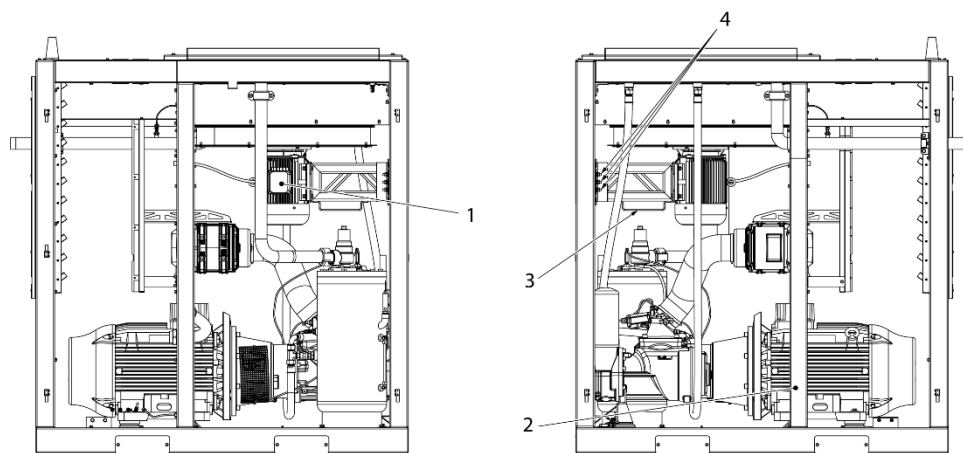

Figure 2-11A Fan Motor Replacement (Rear)
2. Open the fan motor connection box (-1-, Fig. 2-11A) and note how leads are connected.
4. Remove the rear middle lower support (-2-, Fig. 2-11A) by removing the mounting bolts.
6. Hold the fan motor assembly in place with forks side by side through the lift pockets (-3-, Fig 2-11A) using a fork lift.
7. Remove the top four mounting bolts (-4-, Fig. 2-11A) at the base of the fan mount assembly.